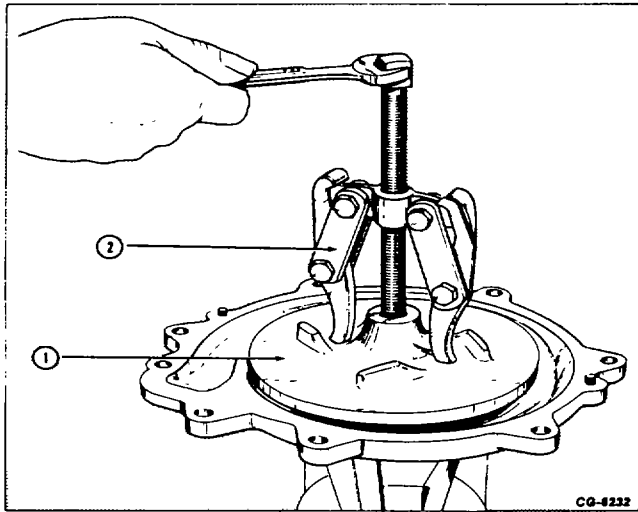

Figure 16. - Removing Impeller
1. Pull off the impeller (1, Fig. 16) using the two 1/2 inch holes provided as shown.
NOTE: If the impeller is equipped with 1/4 inch holes, enlarge them to 1/2 inch to accept a small puller (2, Fig. 16).